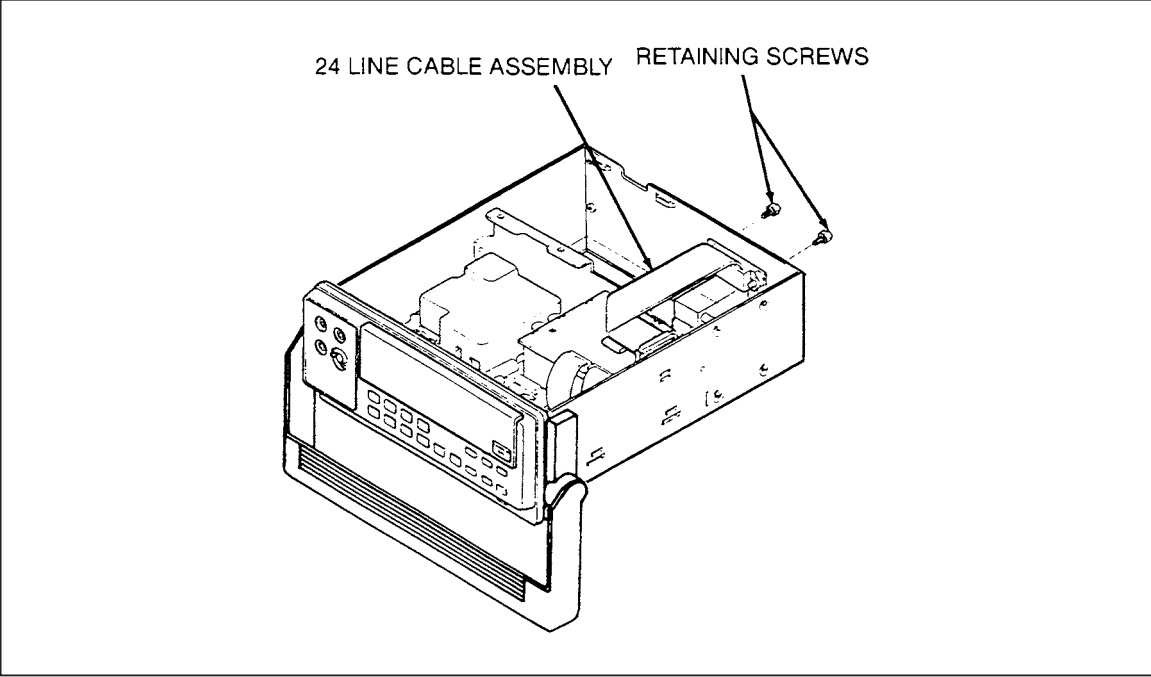

Figure 8-2. IEEE-488 Interface Connector
3. Using needle nose pliers, disconnect the 24-line cable assembly at the IEEE-488 PCA by alternately pulling up on each end of its connector. See Figure 8-2.
7. Connect the 24-line cable assembly to the IEEE-488 PCA. (See Figure 8-2.)